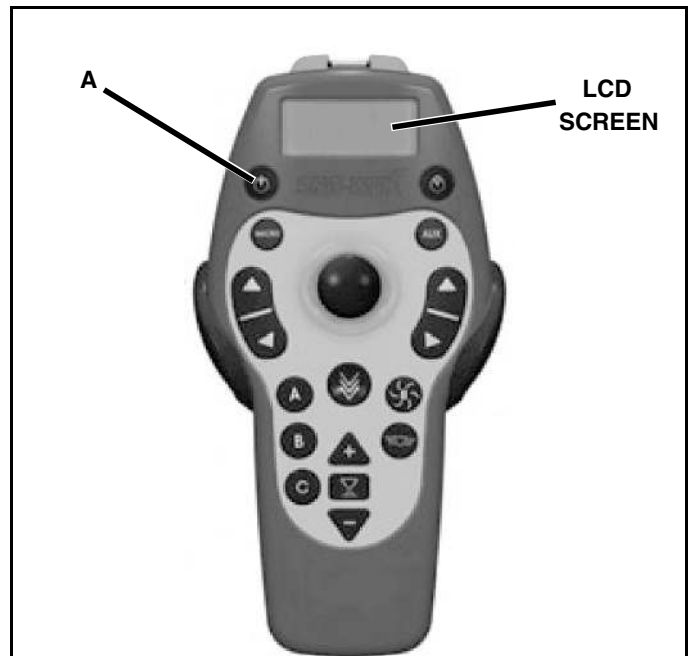

Figure 1-5
1. The round button below the LCD screen and to the left (Figure 1-5, A) is the power button. Press and hold the power button for approximately two seconds to turn on the control.